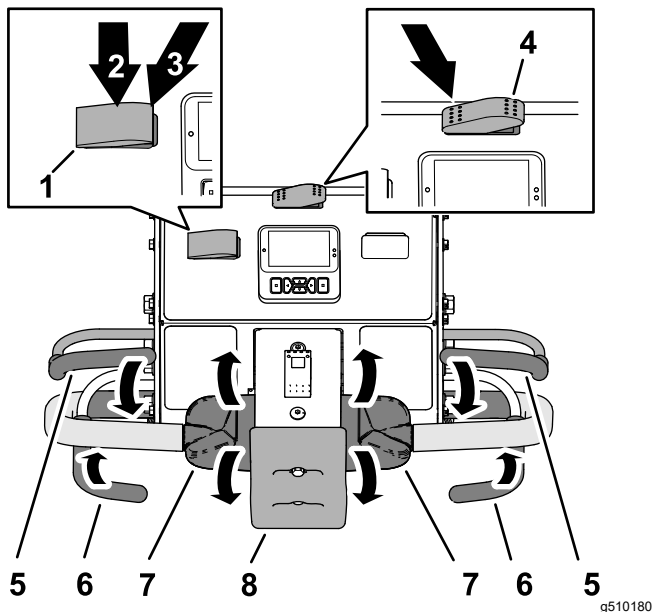

Figure 75
1. Press the transport/aerate switch is in the AERATE position (Figure 75).